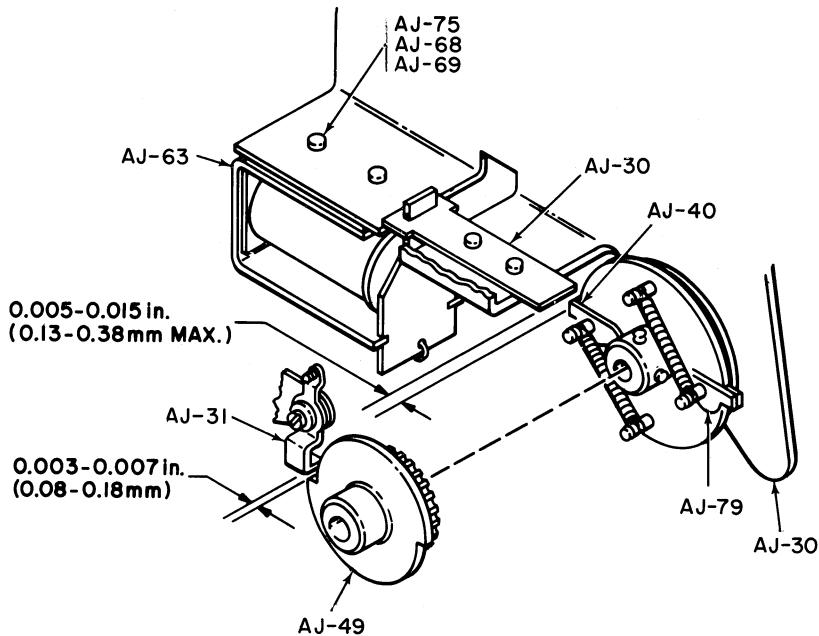

Figure 5-12. TWO ADJUSTMENTS, PAPER FEED MECHANISM (AJ)
To adjust proper distance of armature slide (part of chassis, AJ-30) with respect to holding the raised tab on paper feed clutch, inner cam (AJ-40) (prior to line feed release), perform the following steps: (Refer to Fig. 5-12 below and mechanical drawing (Fig. AJ, Section 8).
As the raised tab on inner cam (AJ-40) and clutch release pawl (AJ-79) strike the armature slide (completing a line feed), it is at this point that the back stopper pawl (AJ-31) (See Fig. 5-12) drops off the notched end of the cam (AJ-49) (Fig. 5-12) and must be adjusted in this position (preventing counter rotation or downward movement of paper).
1. Loosen allen screws (AJ-62) on stop cam (AJ-49) and maintain a gap of 0.003-0.007-in. max. (0.08-0.18 mm) between back stopper and notch on cam (See Fig. 5-12). Tighten allen screws on stop cam when gap is attained.